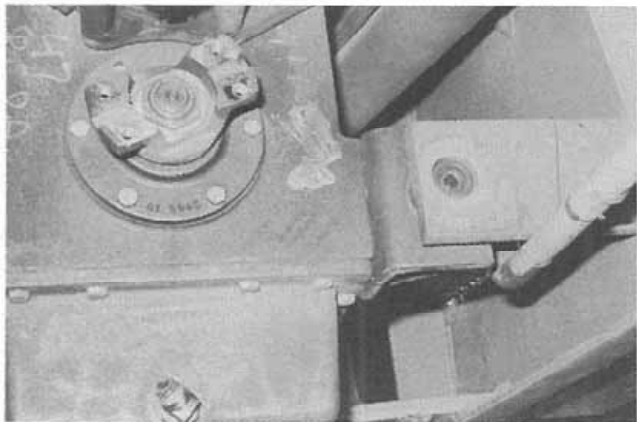

Figure 8:
10. Remove the oil suction hose at the front of the transfer case oil reservoir (Fig. 8), and remove the through-bolts from the lower rubber mount assemblies.